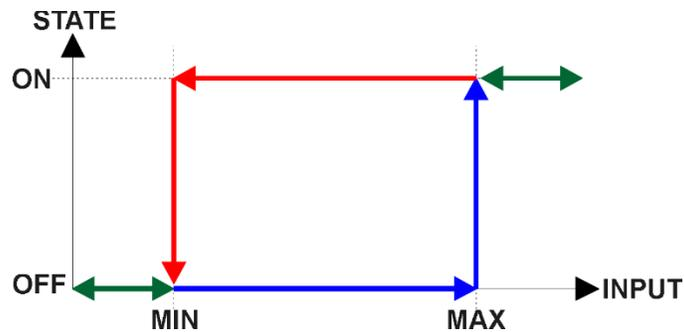

Figure 5 – Analog Input Reads as Digital
There is another type of 'digital' input that can be selected when 6112h is set to 20 = Analog On/Off. However, in this case, the input is still configured as an analog input, and therefore the objects from the Analog Input (AI) block are applied instead of those discussed above. Here, objects 2020h, 2030h and 6030h are ignored, and 6000h is written as per the logic shown in Figure 5. In this case, the MIN parameter is set by object 7120h **AI Scaling 1 FV**, and the MAX is set by 7122h **AI Scaling 2 FV**. For all other operating modes, object 6000h will always be zero.